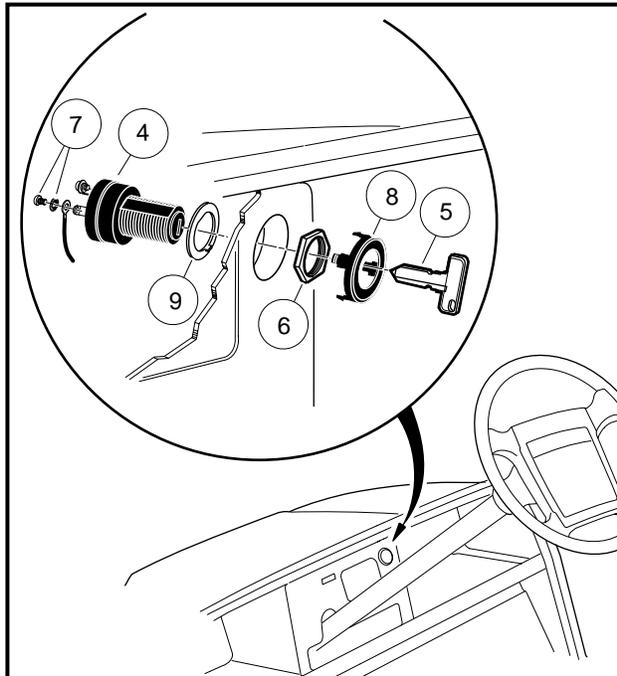

Figure 12-2 Key Switch
5. From the back of the dash panel, push down on the retaining tabs surrounding the key switch and remove the key switch cap (8). Hold the key switch and remove the switch retaining nut (6) from the outside of the dash panel (**Figure 12-2, Page 12-3**).
1. Position the key switch in the center dash and install the switch retaining nut. Press the plastic cap into place on the outside of the center dash (**Figure 12-2, Page 12-3**).